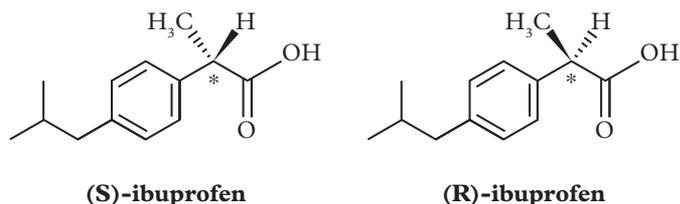

FIGURE 4 (S)-ibuprofen is more effective than (R)-ibuprofen.
It works by decreasing the production of inflammatory molecules (especially prostaglandins) in the body. Ibuprofen has one chiral centre (Figure 4). The (S) stereoisomer is approximately 200 times more effective than the (R) stereoisomer because it binds better to its biological target, the cyclooxygenase enzyme.